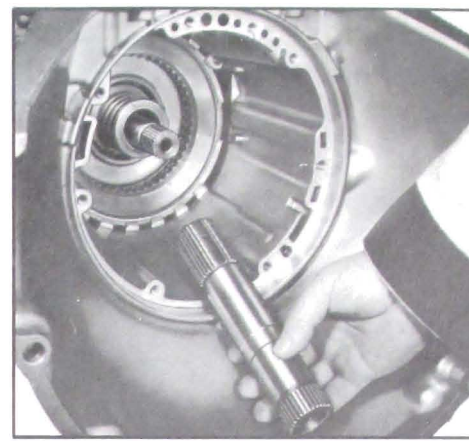

Figure 5-543
9. Remove the sun gear shaft. See Figure 5-543.